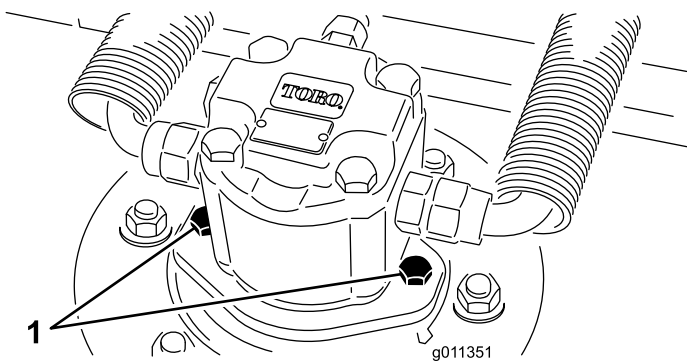

Figure 84
2. Disconnect and remove the hydraulic motor from the deck (Figure 84). Cover the top of the spindle to prevent contamination.
4. Install the hydraulic motor to the deck (Figure 84). Make sure that the O-ring is in position and not damaged.